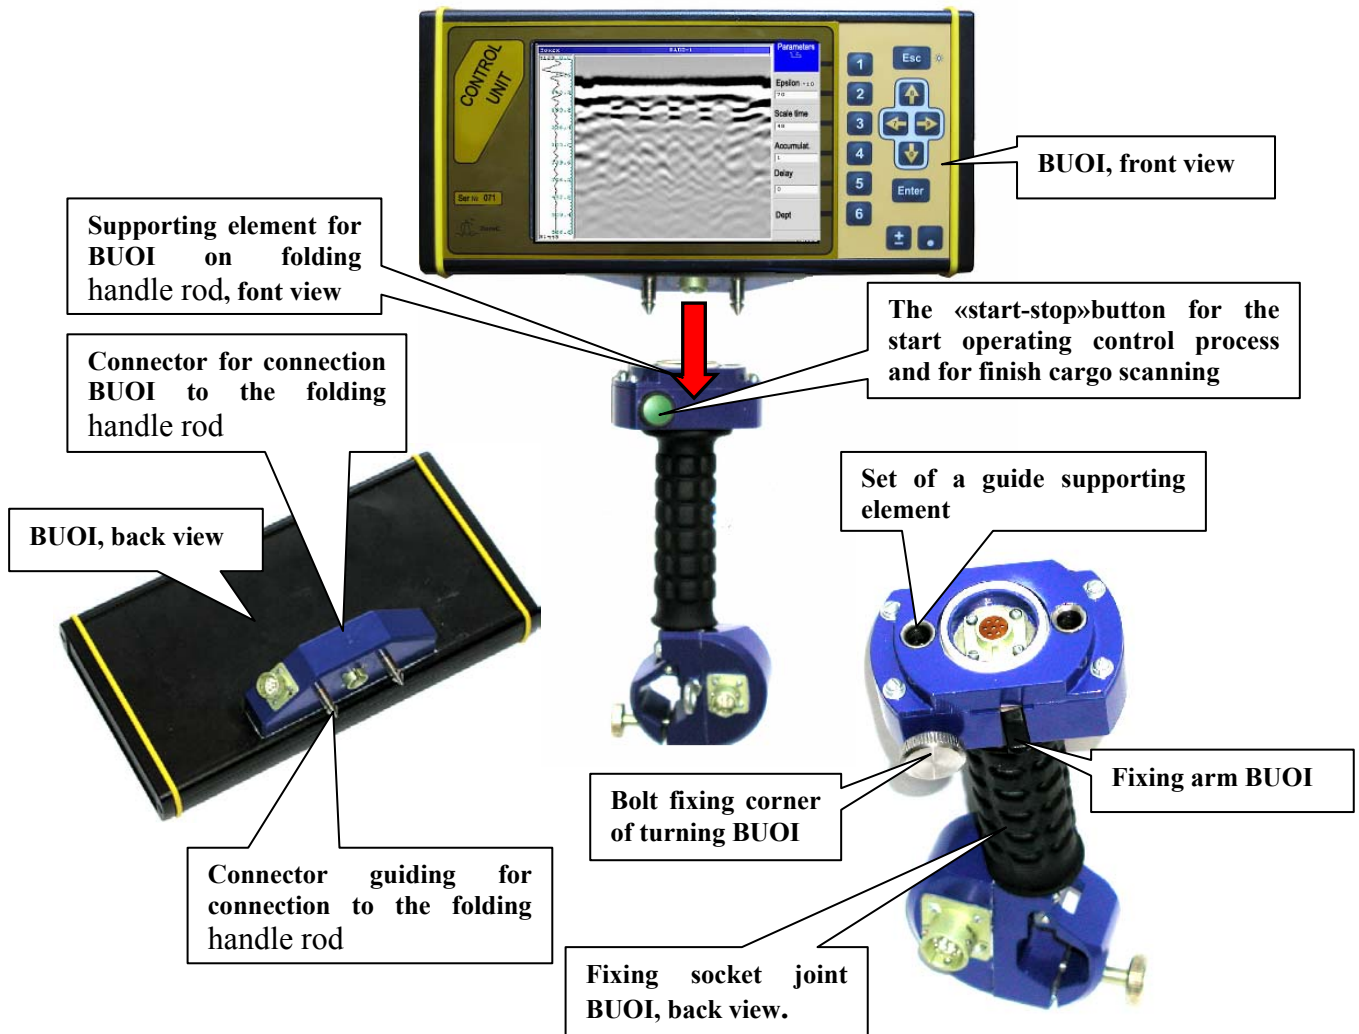

Figure 3.1.3. Support BUOI on folding handle rod.
7. Fix the BUOI on the folding handle rod. For that turn clock-wise the fixing arm of BOUI and fix it in this position, insert guiding connector, to the corresponding parts of the guide supporting element SSHR and then return a fixing arm of BOUI in a starting position (figure 3.1.3);
8. Rotating clock-wise (if looking clockwise from the side of the supporting element of BUOI) release the socket joint fixing the location of a folding handle rod (figure 3.1.3) and pulling the telescopic of a folding handle rod up to the required value, adjust the length of a f.b.h. (regarding the standing height of a person), then rotating counterclockwise (if looking from the side of a supporting element of BOUI) tighten the fixing socket joint;
9. Releasing the screw which fixes the turn of BUOI movement, adjust the turn angle of BUOI in a relation to a handle rod (figure 3.1.3);
“Start-Stop” button (figure 3.1.3) is for the on-line control of the start and end of the signal recording, putting marks (tags) during recording and it functions in the following way: